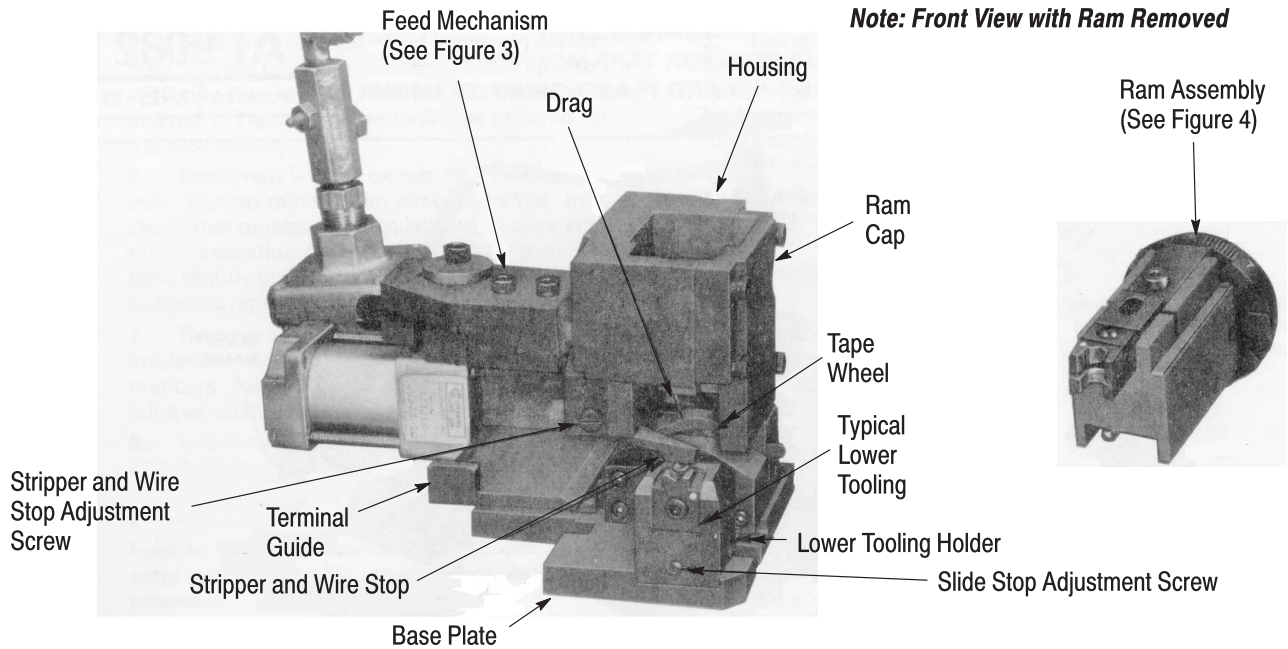
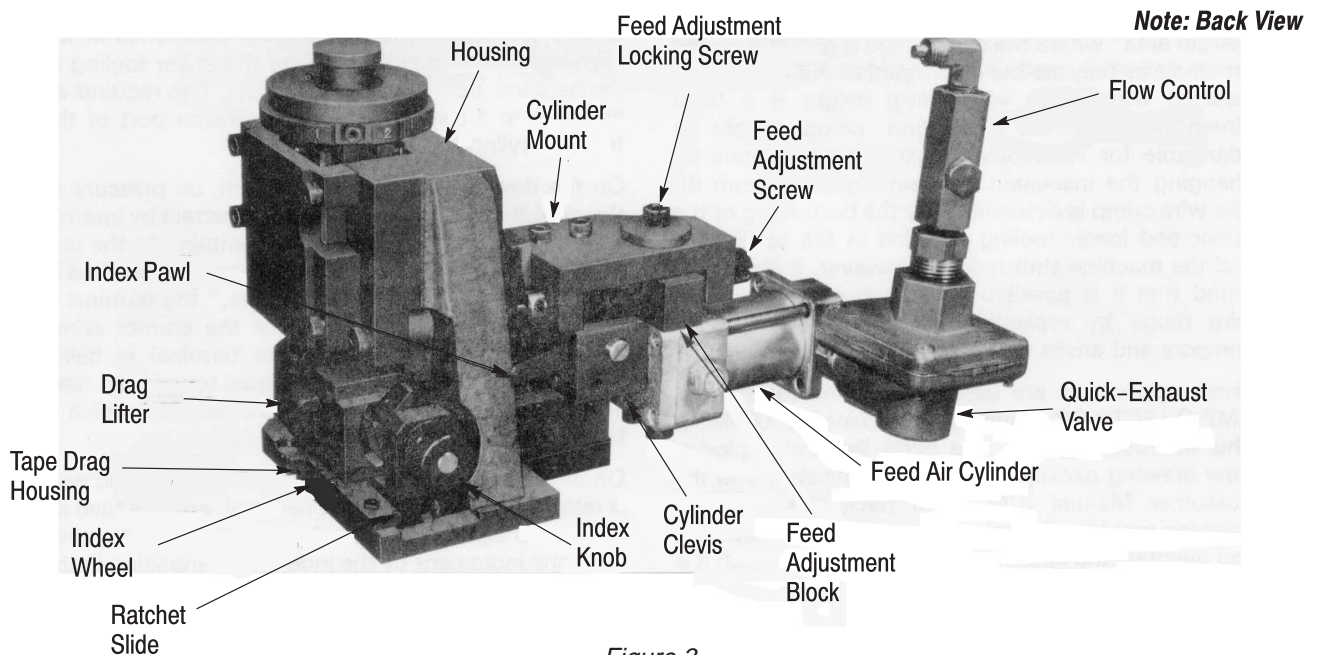
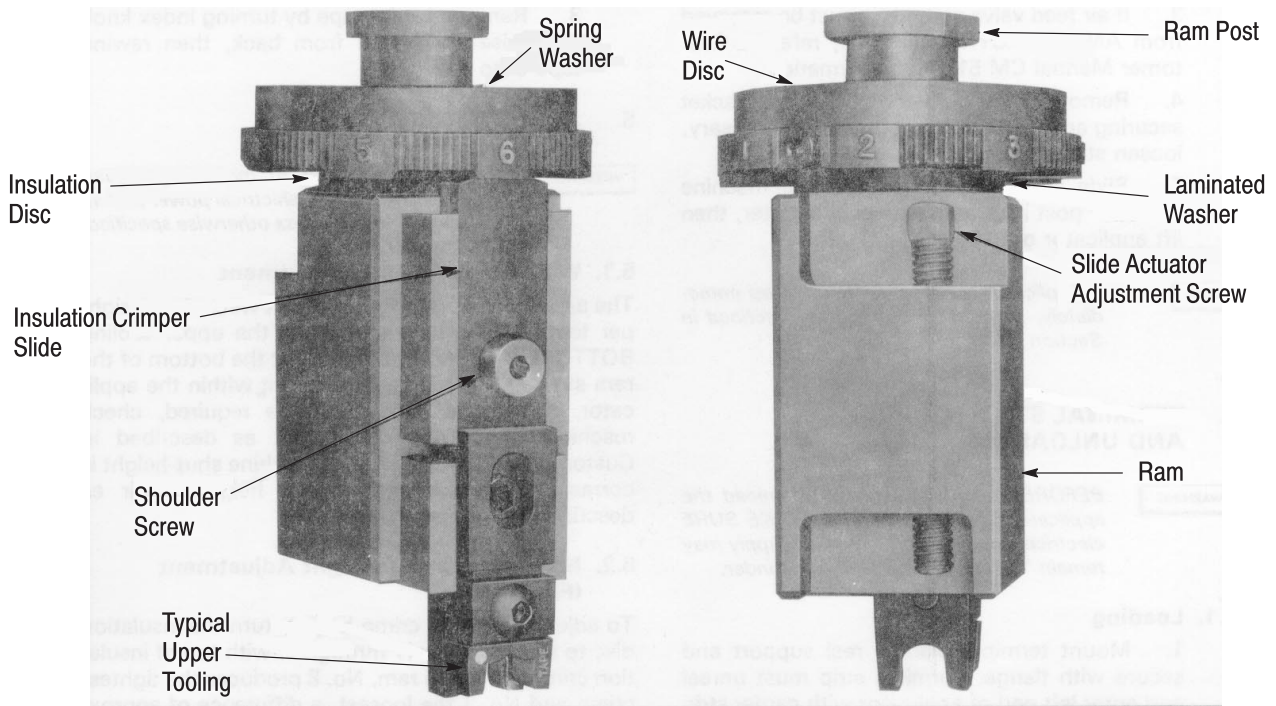

Figure 2
Figure 3
Figure 4
Major components of the applicator are identified in Figure 1, Figure 2, Figure 3, and Figure 4. The terminal tape enters the applicator from the left, passing over the terminal guide; then the tape containing the terminals passes under the drag and engages with the tape wheel. The lead terminal is always positioned in the "target area" and centered over the lower tooling at the beginning of each machine cycle. This requires air pressure to be applied to the extension port of the feed cylinder.
The applicator ram (Figure 4) supports the upper tooling which comprises the wire crimper and insulation crimper. The wire crimper is not adjustable
##### 5.2. Insulation Crimp Height Adjustment (Figure 4)
7. To increase or decrease the slide assembly travel, turn the slide actuator adjustment screw (Figure 4) in the back of the ram post as required.